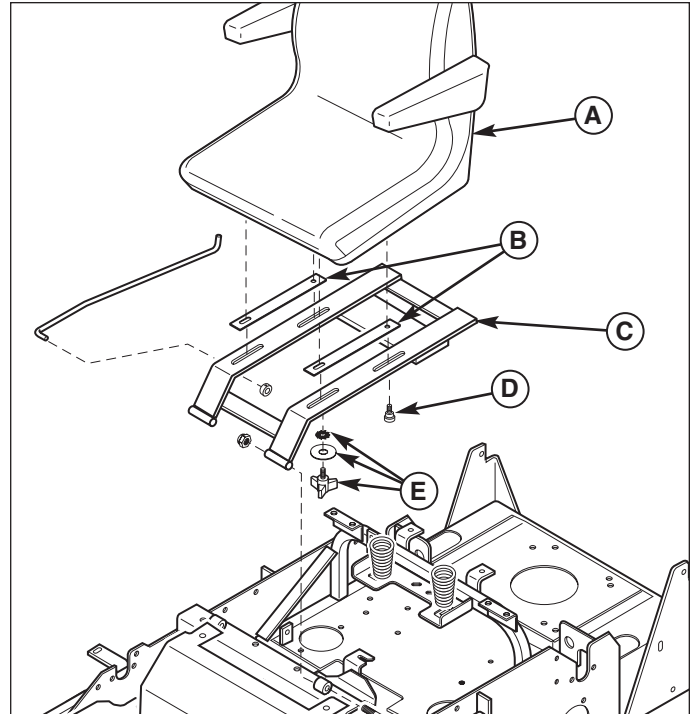

Figure 3. Seat Installation
1. Mount the seat (A, Figure 3) and spacers (B) to the seat plate (C) using two shoulder bolts (D) in the rear and two knobs, washers, and lockwashers (E) in front.